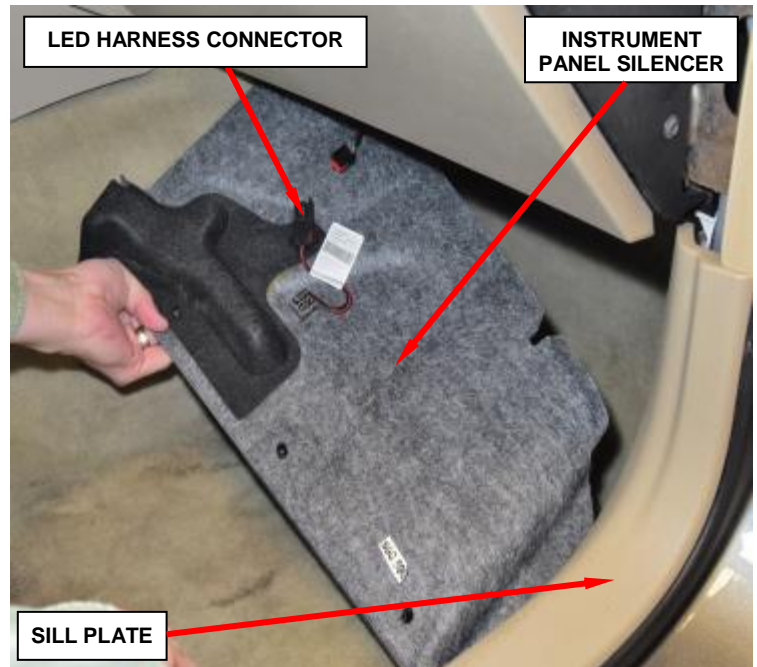

Figure 2 – Instrument Panel Silencer
- b. Remove right side sill plate (Figure 2).
- c. Remove the three pushpins that secure the instrument panel silencer to the instrument panel (Figure 2).
- d. Disconnect the harness connector(s) and remove the right side instrument panel silencer (Figure 2).